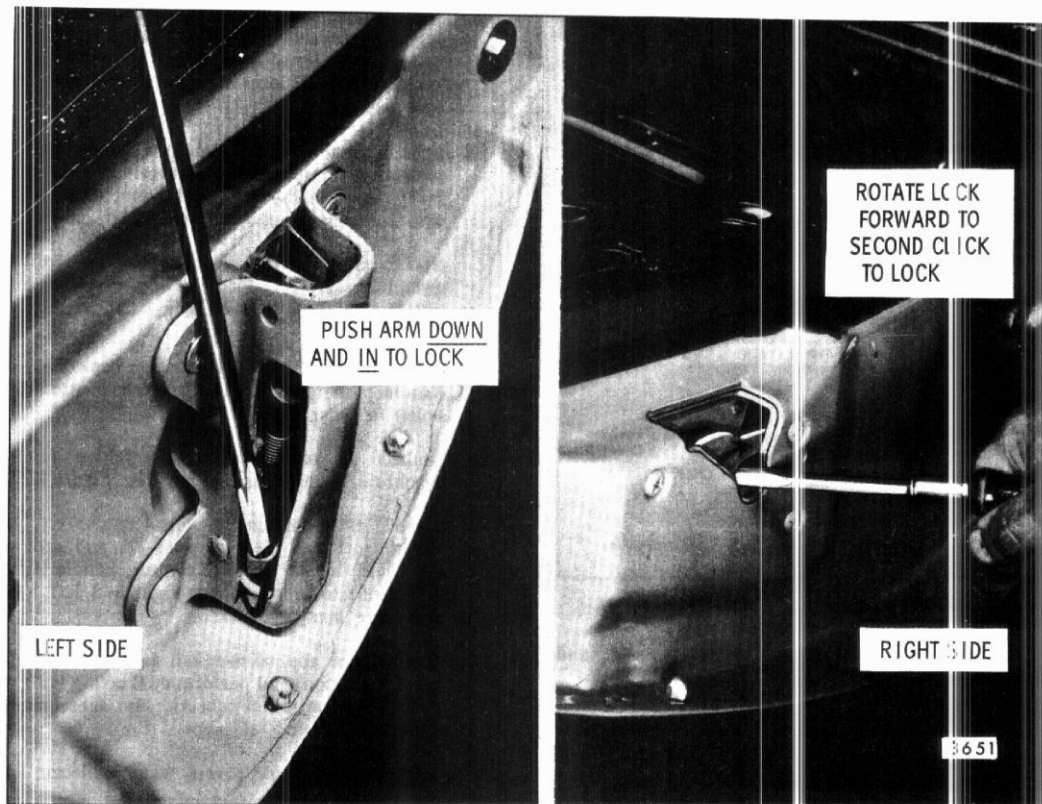

Fig. 9-14-Dual Acting Tail Gate Right and Left Upper Lock Manual
2. With glass supported in a full-up position, manually lock right upper lock as shown in Figure 9-14.
- A. The RIGHT upper lock is engaged by pivoting fork bolt to its full clockwise limits (Fig. 9-14).
- B. The LEFT upper lock is engaged by depressing (with a screwdriver, or other suitable tool) the locking lever to full-engagement (Fig. 9-14).